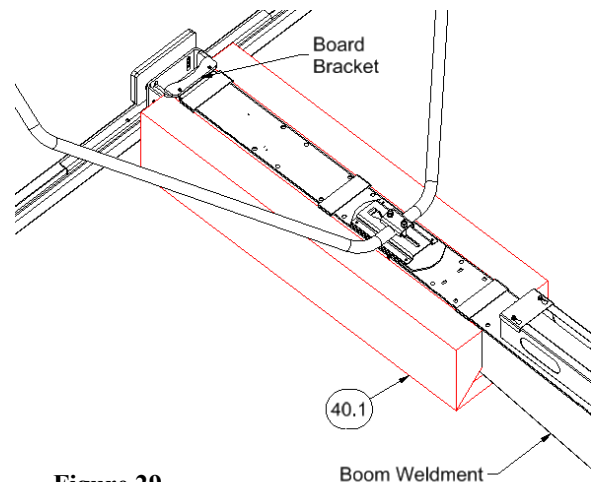

Figure 29
6. Install the Boom Pad, item 40.1, to the lower side of the Boom Weldment, using the hook and loop straps. The Boom Pad should be pushed tight to the Board Brackets as shown in figure 29.